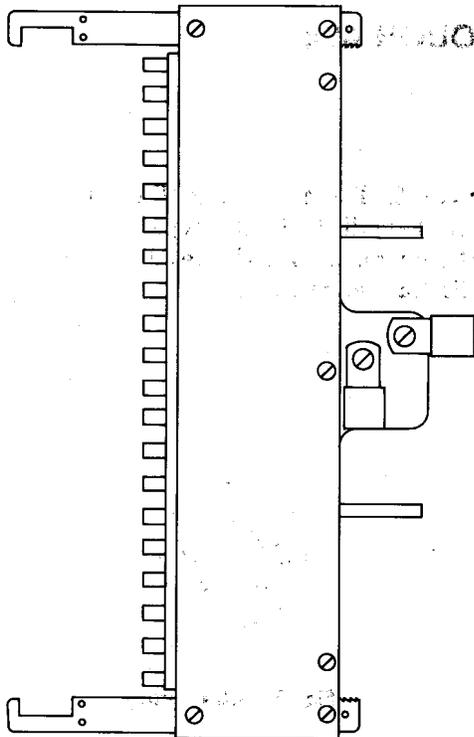

Fig. 3—405A Plug
2.03 **405A:** The 405A plug (Fig. 3) consists of a metal frame containing twenty spring-loaded contact plungers numbered 0 to 19 for making contact with terminals on terminal strips, and a metal sliding arm designed to fit over the mounting strip of the 35-, 36-, 168- and P-type terminal strips. This plug is used to connect subscriber line terminals on the vertical intermediate distributing or horizontal combination distributing frame with the traffic usage recorder circuit of the Step-by-Step System.